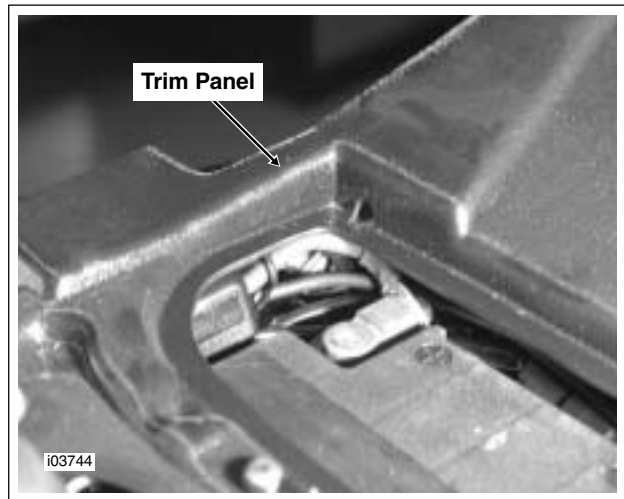

Figure 8-45. Reinstall Trim Panel
30. See Figure 8-45. Reinstall trim panel to fender using nuts and washers saved from step 7.